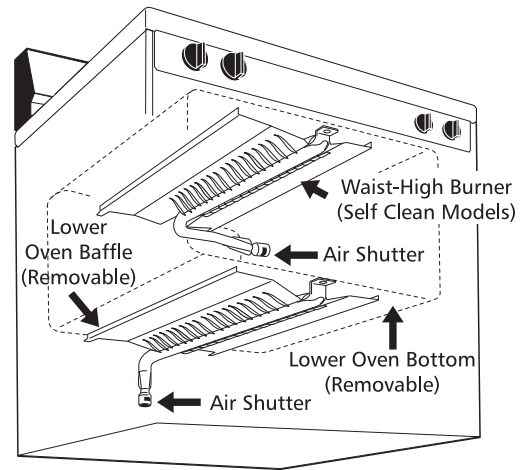

Figure 13
- Observe the flame to determine if the broiler burner flame is properly adjusted. It should be steady with approximately 1" blue cones and no yellow or orange flame tips (See Figure 13).